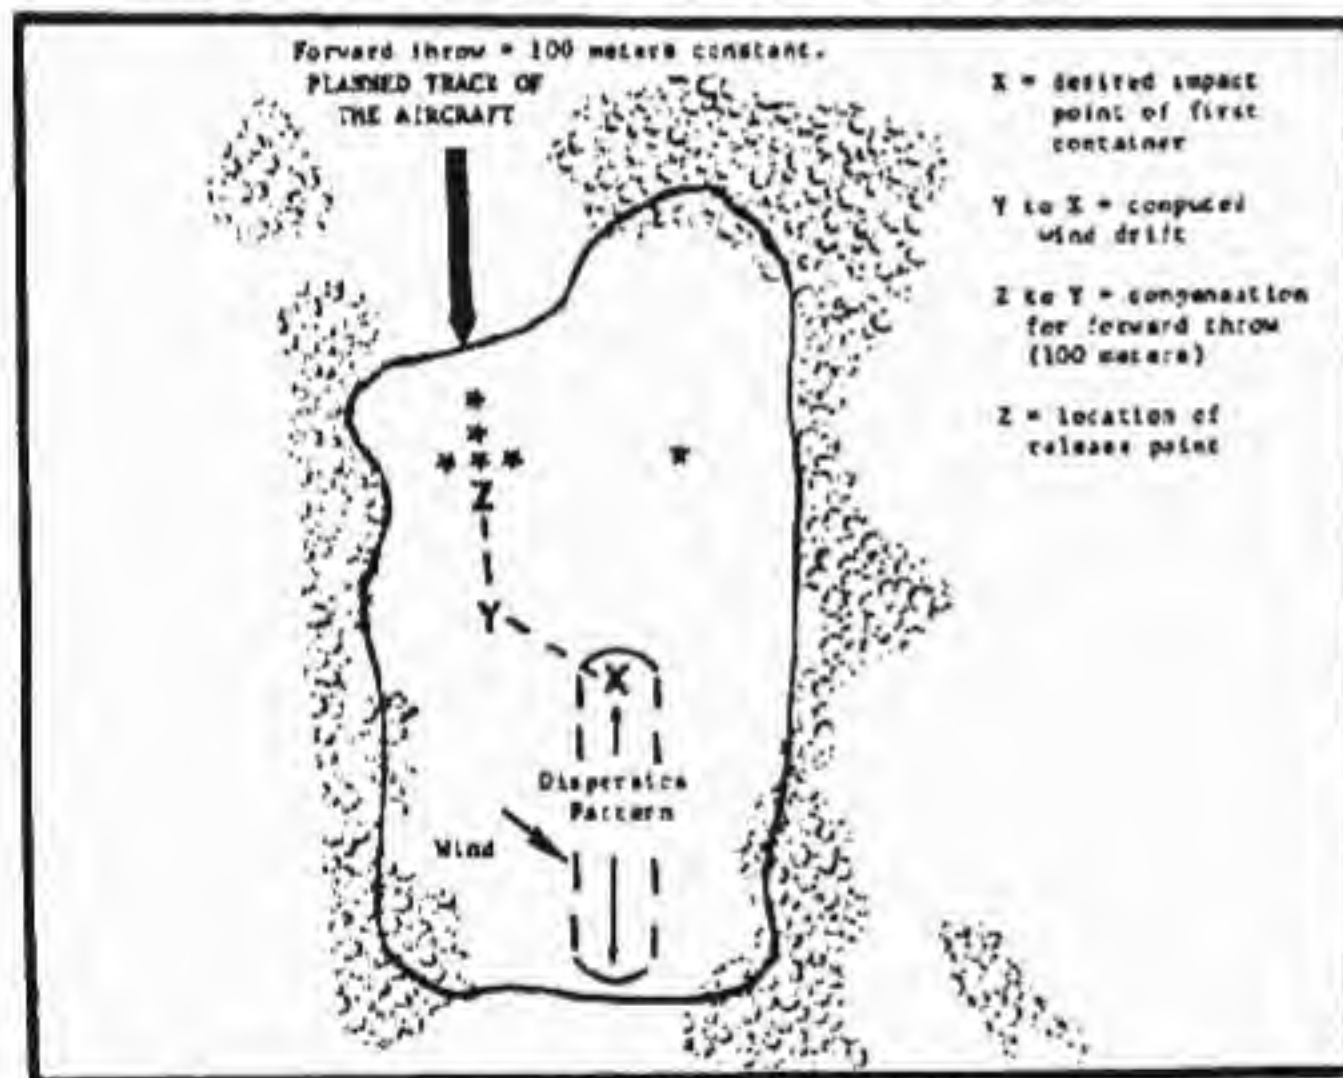

Figure 6
(3) The use of electronic humming devices permits the conduct of reception operations during conditions of low visibility. Such devices normally are used in conjunction with visual marking systems.
c. Computation of Release Point. The release point must be determined to insure delivery of personnel and/or cargo within the usable limits of the DZ. Computation of the release point involves the following factors (Figure 6).
(c) Forward throw. This is the horizontal distance traveled by the parachutist or cargo container between the point of exit and the opening of the parachute. This factor, combined with reaction time of personnel in the aircraft, is compensated for by moving the release point an additional 100 meters in the direction of the aircraft approach (Figure 6).